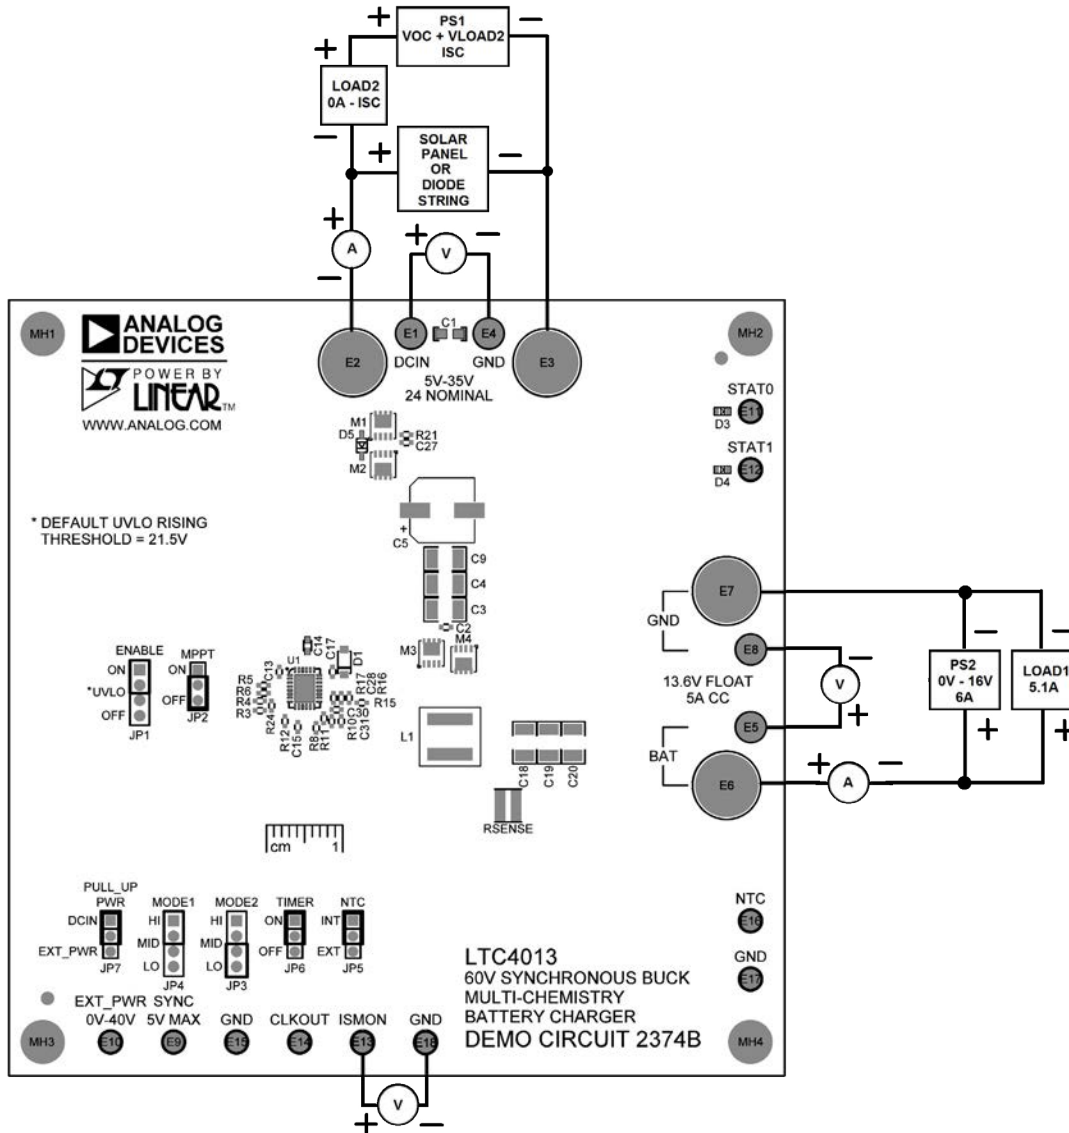
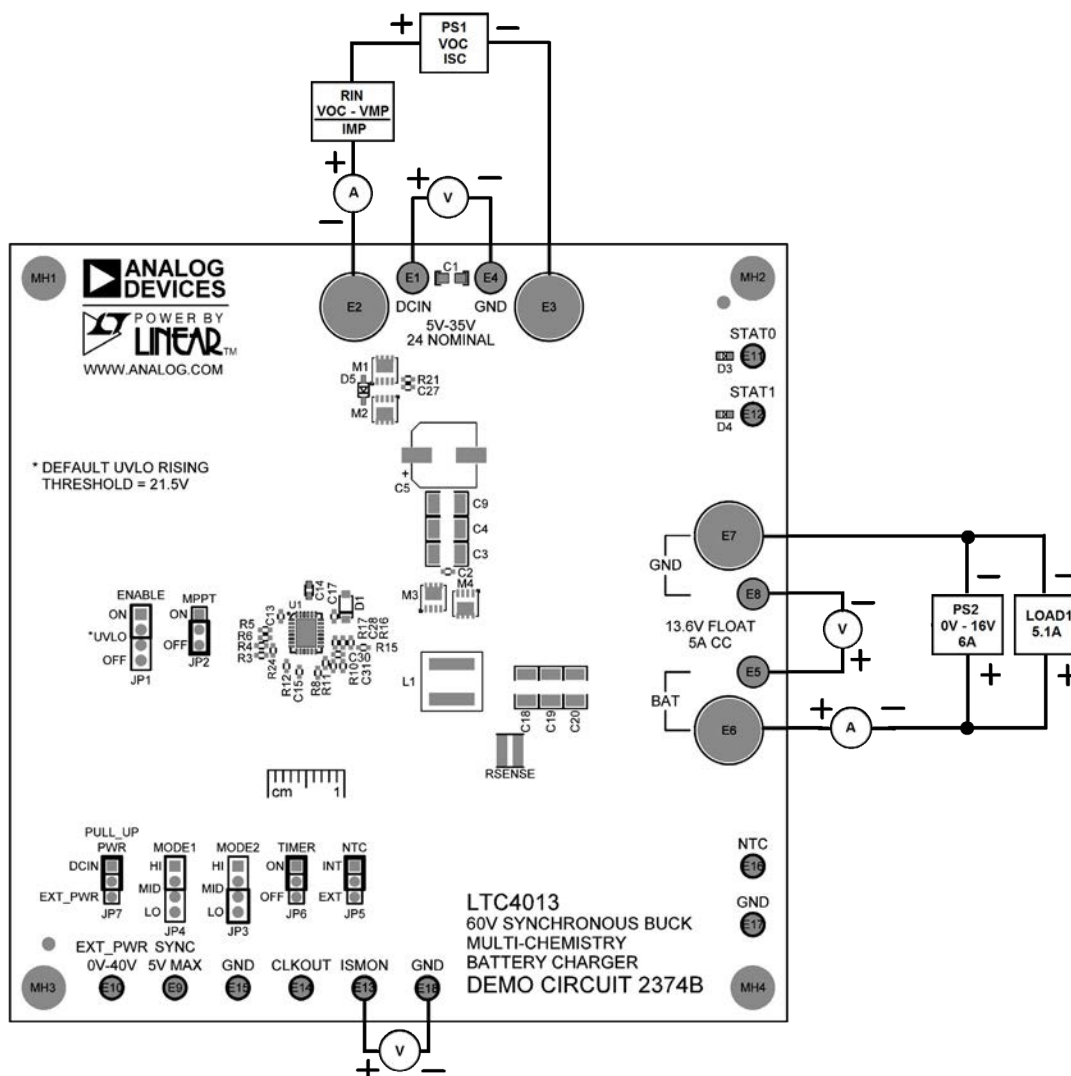

Figure 3. Solar Panel Simulator Using a Dark Solar Panel or Diode String
Figure 4. Solar Simulator Using a Power Supply with Series Resistor
There are a number of ways to test the MPPT function of the LTC4013. The most accurate way is to use a solar panel in sunlight, however it is difficult to control the sunlight conditions. Another method is to use a covered solar panel (dark panel) biased thru a controlled current source from 0A to the short circuit current ( $I_{SC}$ ) of the panel as shown in Figure 3. The solar panel can be replaced with a string of silicon rectifier diodes that can handle the power dissipation of  $V_f \cdot I_{SC}$ . With these methods, increasing the current on the panel to  $I_{SC}$  produces the maximum  $V_{OC}$  for a full light condition. Reducing this current simulates lower light conditions.
A more simple method is to supply a voltage to DCIN with a series input resistor ( $R_{IN}$ ) as shown in Figure 4.  $R_{IN}$  is calculated by  $(V_{OC} - V_{PM})/I_{MP}$  where  $I_{MP}$  is the maximum power current. The supply current limit is set to  $I_{SC}$  and the voltage of the supply is set to the desired  $V_{OC}$  representing the desired sunlight. Set the power supply to the maximum  $V_{OC}$  to produce a full light condition. Reducing the supply voltage simulates lower light conditions.
5. With power off, connect a solar panel or solar panel simulator as previously discussed and refer to Figure 3 and Figure 4 as needed.